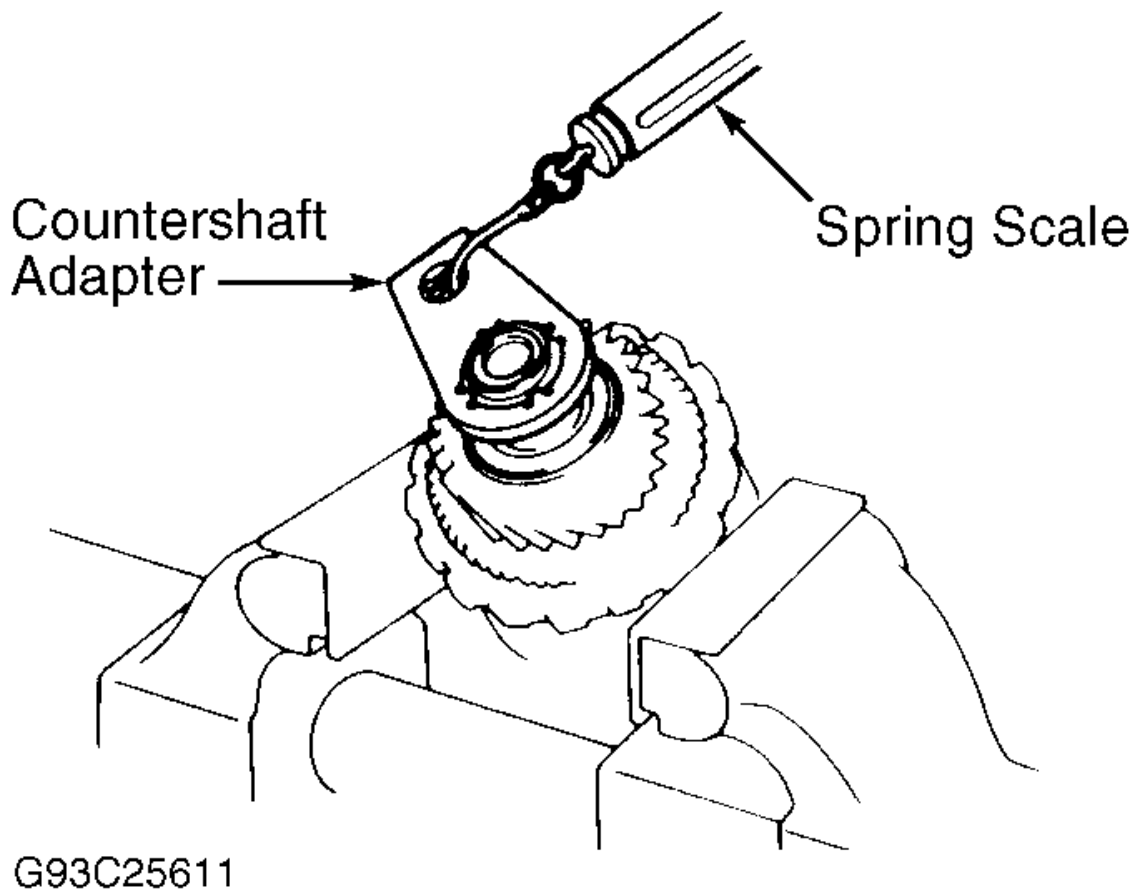

Fig. 47: Measuring Countershaft Torque
5. Using Countershaft Adapter (09351-32170) and a spring scale, measure starting torque of countershaft. Before measuring starting torque, turn countershaft firmly to seat bearing. Starting torque should be 2.6-4.4 lbs. (1.2-2.0 kg). Replace spacer if starting torque exceeds specification. Recheck starting torque. See Fig. 47 .